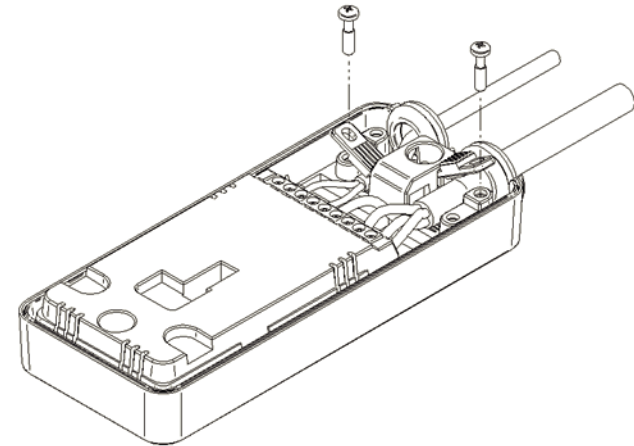

Fig. 6 - Blanking plugs
10. Fix together via two screws located on the front surface – both steps are shown in Fig. 6
11. To finish off pop the two blanking plug components over the screw heads. – Fig. 6